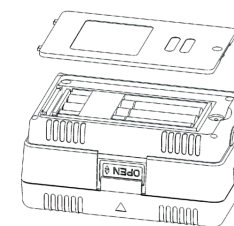

Figure 5
11. Battery Replacement (See Figure 5)